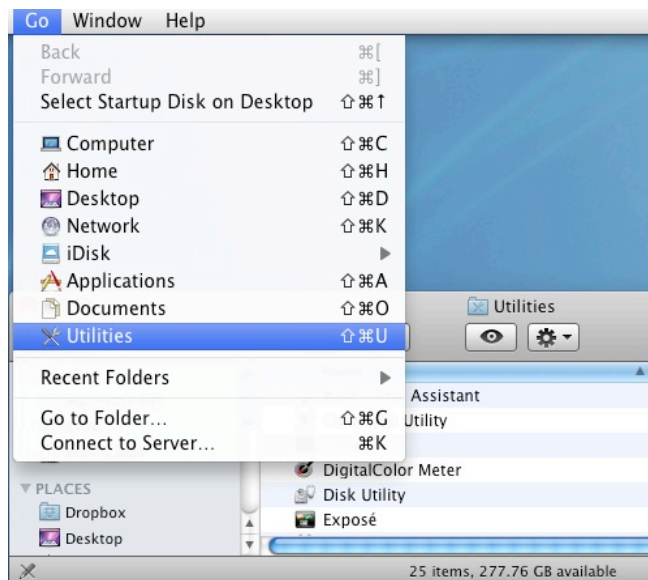

Figure 5: Locating Apple's *Disk Utility*
- c) Double click the Disk Utility Application (See Figure 5)